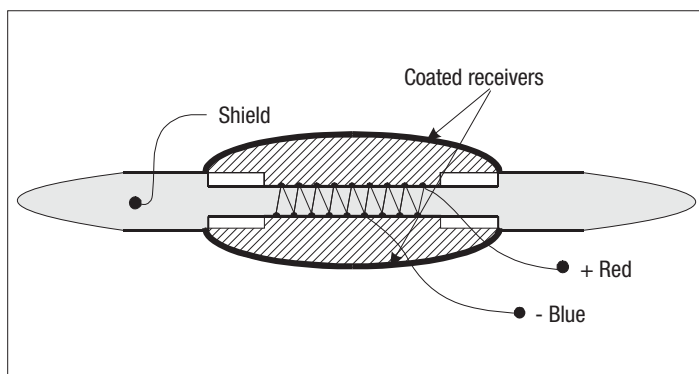

FIG. 1
- Fig.1 shows the wiring diagram.